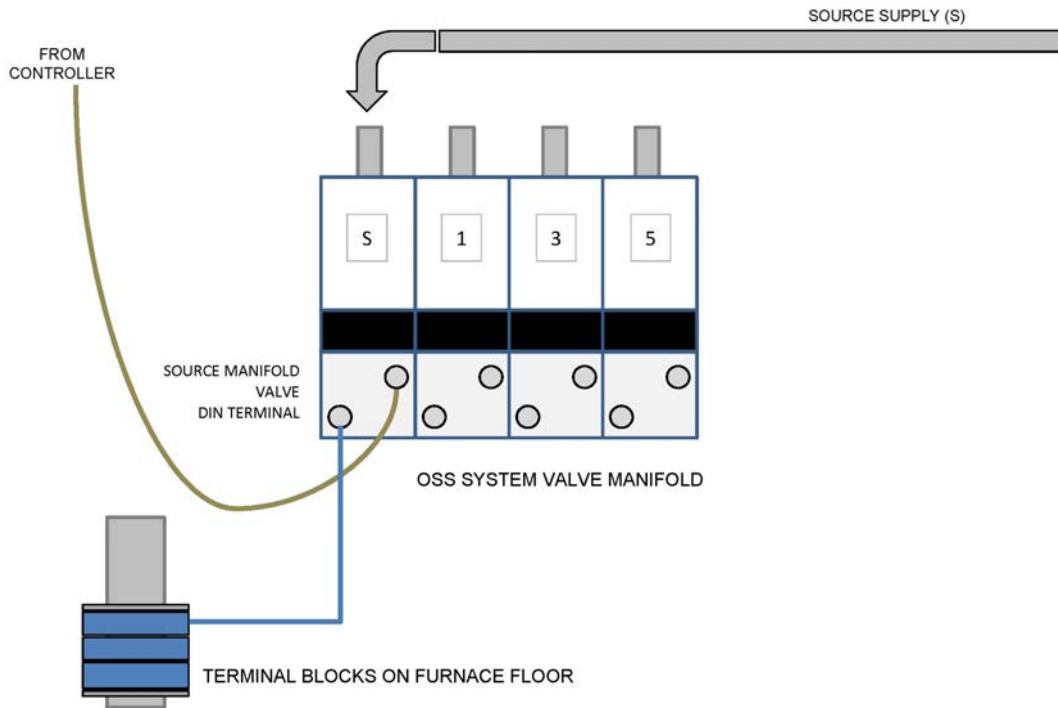
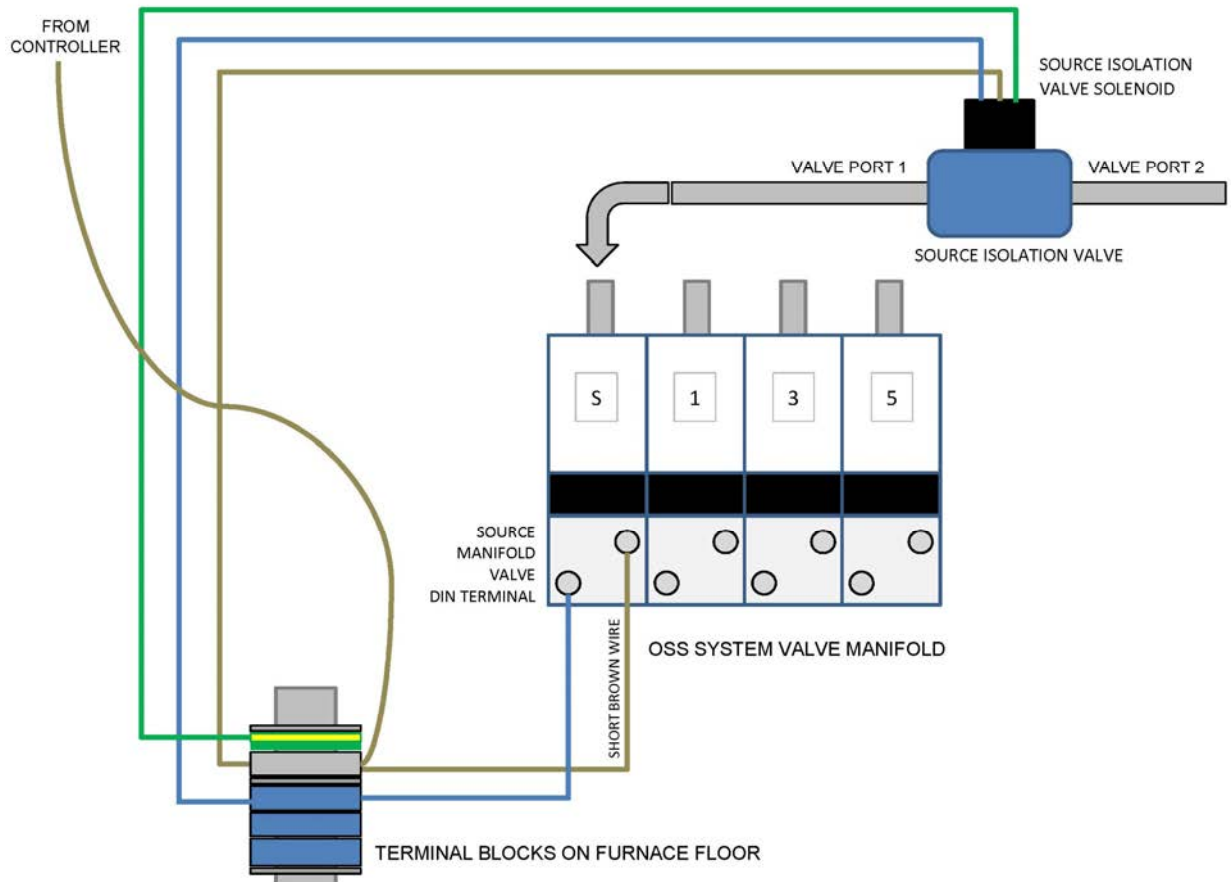

Figure 8-6. SOURCE MANIFOLD WIRING (EXISTING)
Figure 8-7. SOURCE MANIFOLD AND ISOLATION VALVE WIRING (AS-MODIFIED)
- f. Feed other end of short brown wire from kit through housing opening and connect to grey terminal block (Figure 8-7).
5. Connect the blue wire from the Source Isolation Valve solenoid to a blue terminal block on the furnace floor (Figure 8-7), any one will do.
6. Connect the green (or yellow/green) wire from the Source Isolation Valve solenoid to the yellow/green terminal block on the furnace floor (see Figure 8-7).
7. Completed wiring should now look similar to Figure 8-7. Note: in Figures 8-6 and 8-7 wires for other port solenoid valves not shown for clarity.